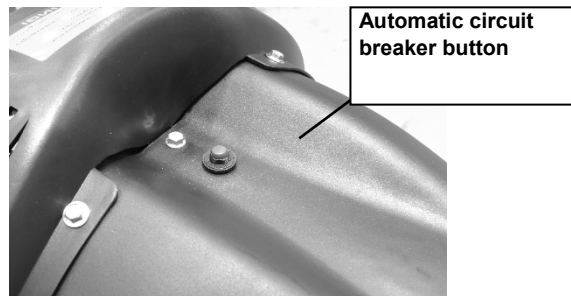

Figure 6 – Automatic fuse
- Press the automatic safety button (see Fig. 6) located on the top of the protective cover 5 (see Fig. 2) until it clicks.